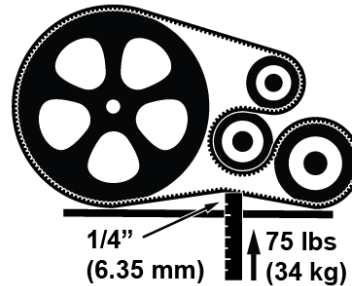

Fig. 149 - Feed Auger Belt Tension Measure
5. Take note of the belt orientation and how it is fed through the pulleys. Remove the old belt and install the new belt. See Fig. 149 on page 94 for belt orientation.